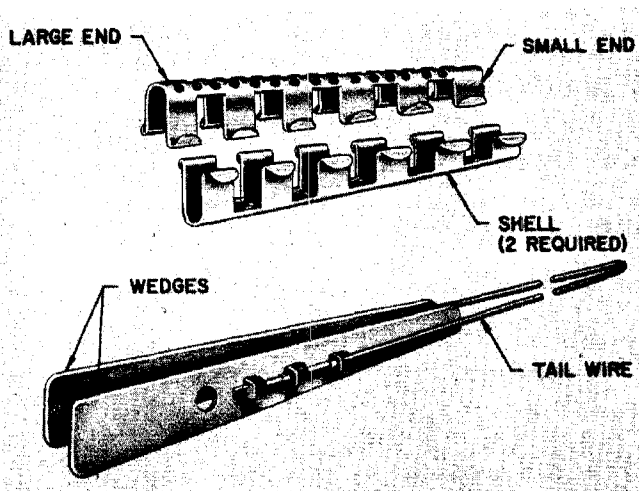

Fig. 2 — D Drop Wire Clamp
6.01 The D clamp is designed primarily for use on multiple drop wire. It consists of two identical semicircular shells and two flat wedges held together by a tail wire. The clamp is illustrated in Fig. 2.